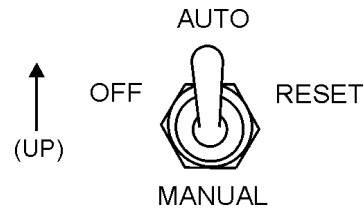

Figure 36. Off/Manual Auto Switch (AUTO)
2. Place the Off/Manual/Auto switch (Figure 36) in the **AUTO** position (up).